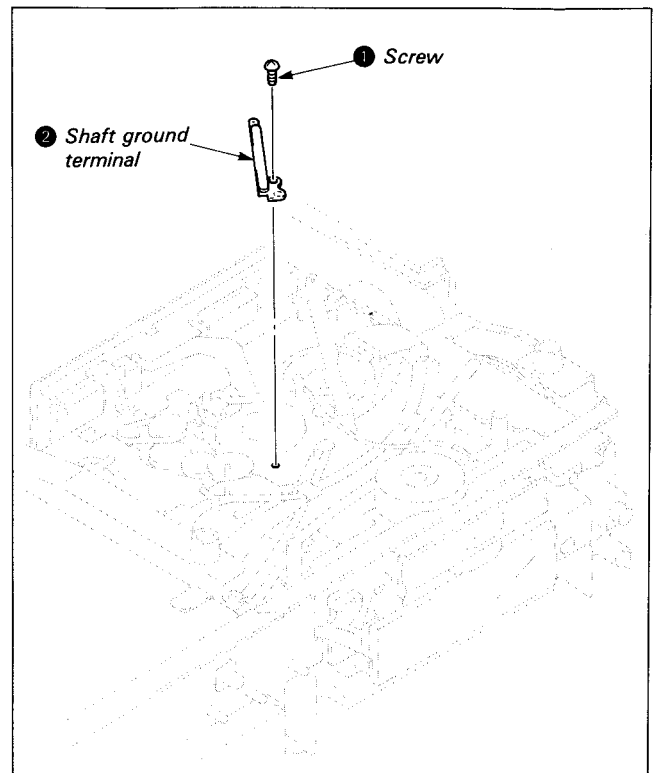
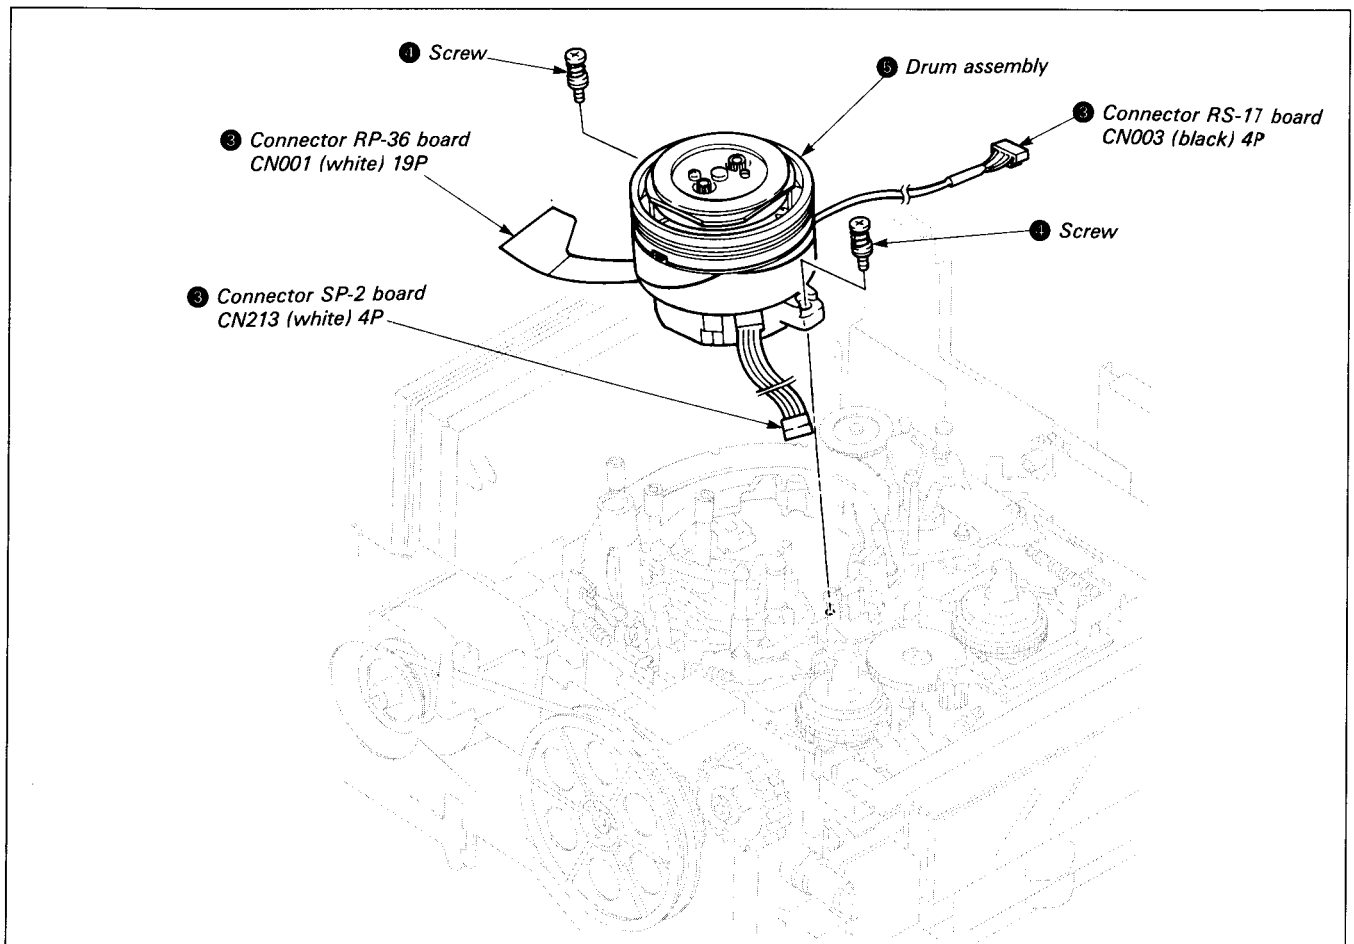

Fig. 7-50.
Fig. 7-51.
(See Fig. 7-50, 51)
- 3) Remove screw ① and the shaft ground terminal ②. (See Fig. 7-50.)
- 4) Remove the three connectors ③.
- 5) Remove the two screws ④.
- 6) Remove the drum assembly ⑤. (See Fig. 7-51.)